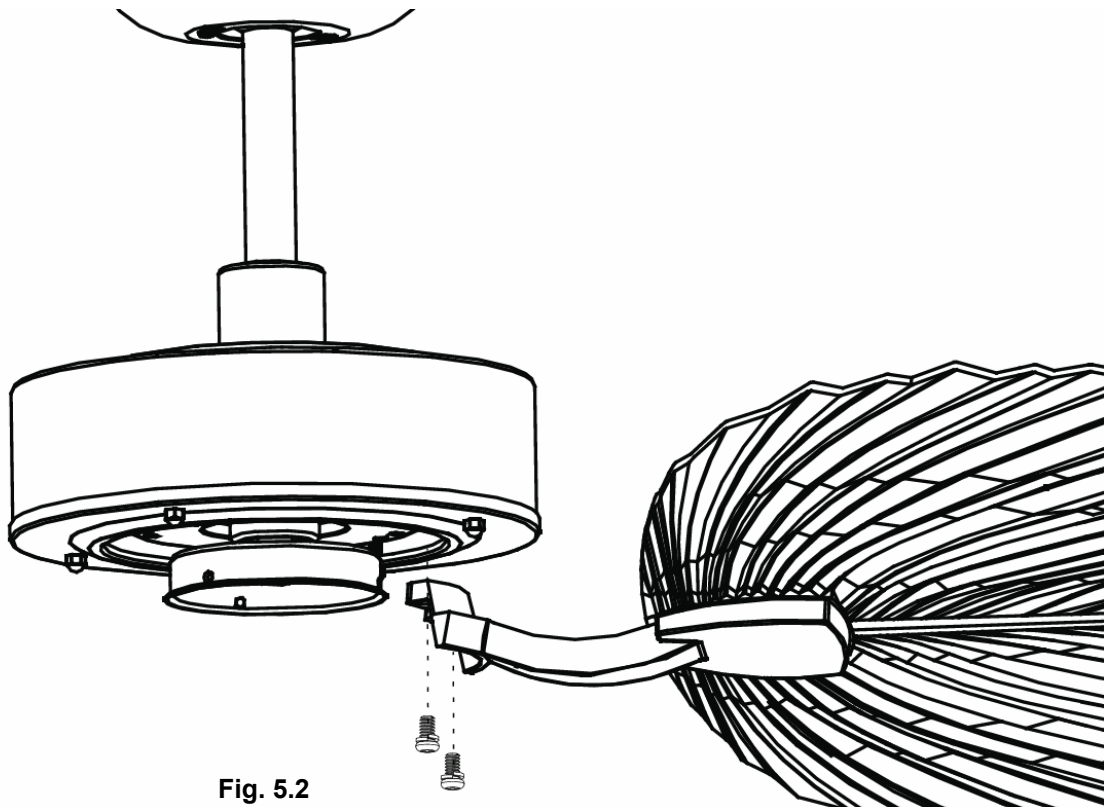

Fig. 5.2
2. Install the fan blade assembly to the fan assembly by the 2 screws and spring washer set. (Fig. 5.2)